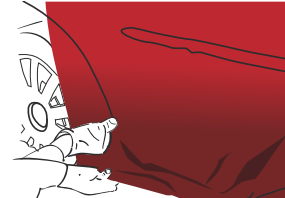

Figure 09
- › Apply the film with a finger or a plastic squeegee previously covered with felt. (FIG. 09)